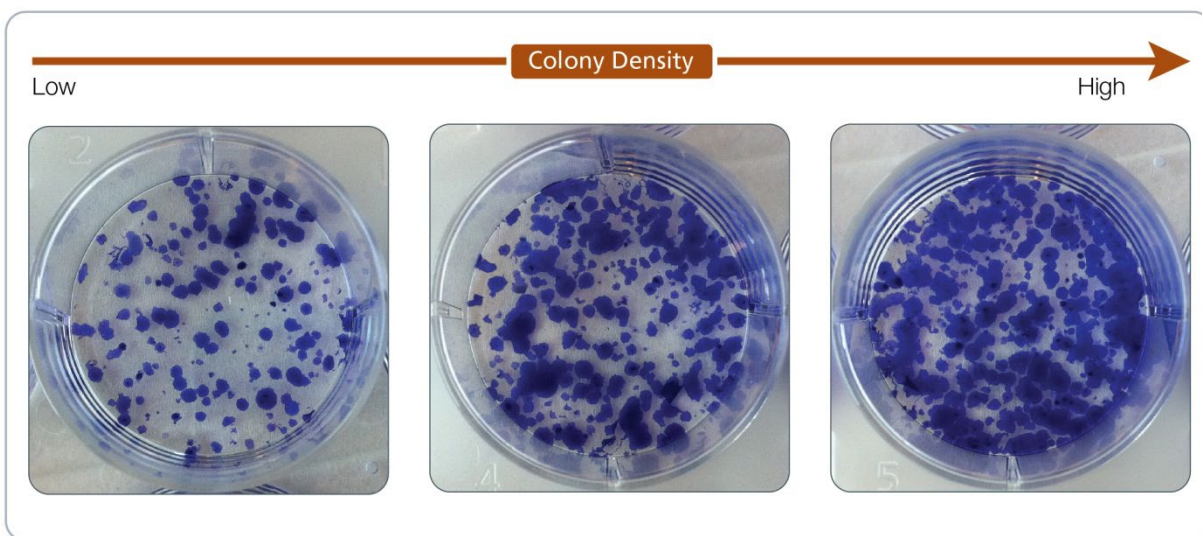

Figure 14. Example Colony Densities for Cultures Grown in mTeSR™1
**For representative images see Figure 14.
The number of cell aggregates plated at the time of passaging is correlated to the colony density observed at the next time of passaging. By altering the split ratios at the time of plating you can increase or decrease the colony density as desired. For example, a lower split ratio at the time of plating (i.e. plating more cell aggregates) will result in a higher colony density at the next passaging time. Typical split ratios are 1 in 10 to 1 in 50; however, this can vary depending on the cell line used and the individual operator. Refer to Figure 14 for a recommended range of colony densities that should be observed at the time of passage. Some cell lines may show increased spontaneous differentiation when cultured at higher densities; if increased differentiation is observed, the colony density may be decreased in the next passage by plating fewer cell aggregates. Counting cell aggregates is an alternate way to determine and adjust plating densities (see Appendix 1).